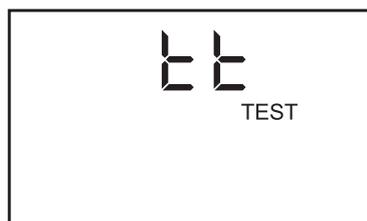

Figure 21: Test Tone Display Screen
3. Press the TEST OPTIONS button twice to activate the Test Tone display screen. It should look like Figure 21.
4. Press the TEST OPTIONS button twice to active the Test Tone display screen. It should look like Figure 21 on page 17.